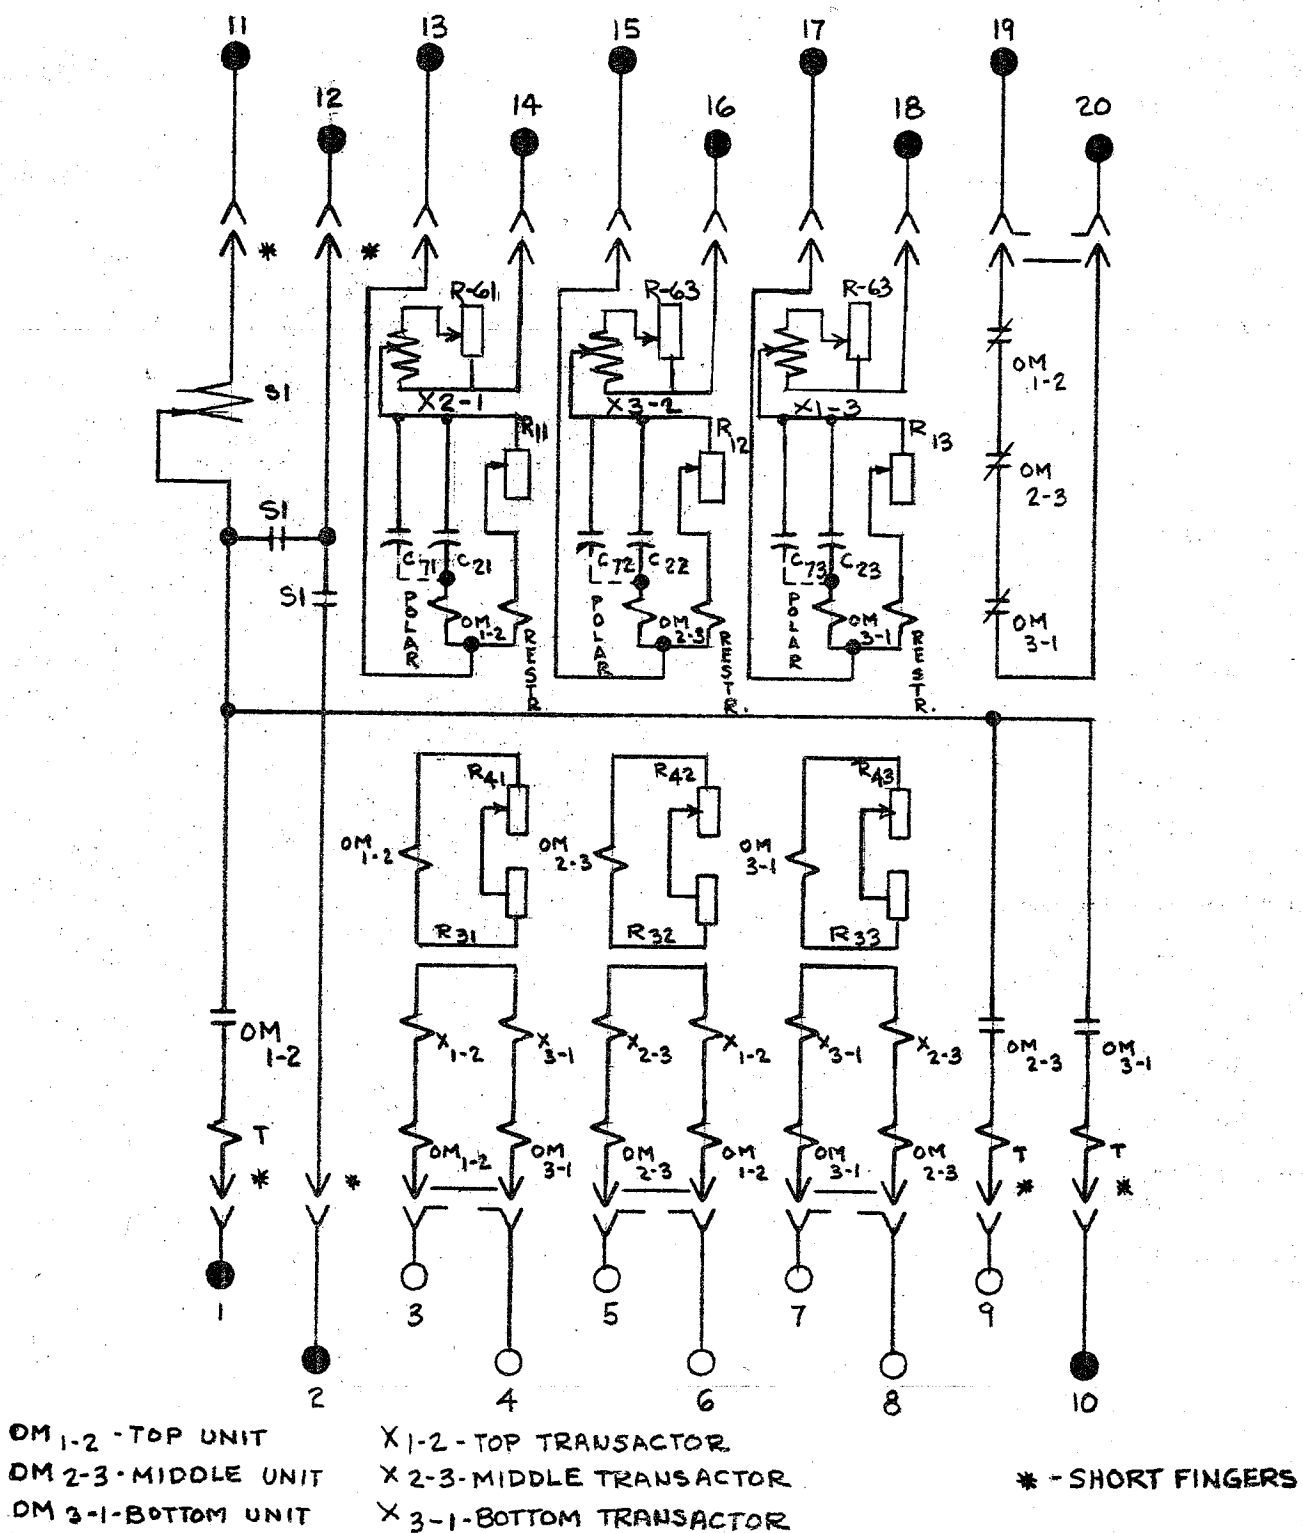

FIG. 1 (0165A6054-1) SH. 1 INTERNAL CONNECTIONS DIAGRAM FOR THE CEB13J RELAY (FRONT VIEW)
2. The internal connections are shown in Figure 1.